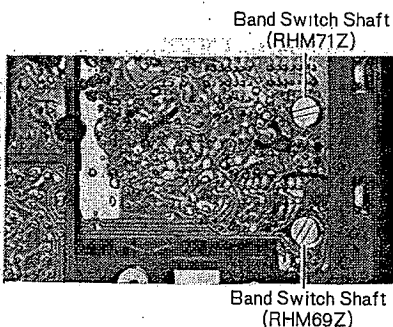

Fig. 7
1. Set the band switch shaft at the position (SW, SW1), as shown in fig. 7.